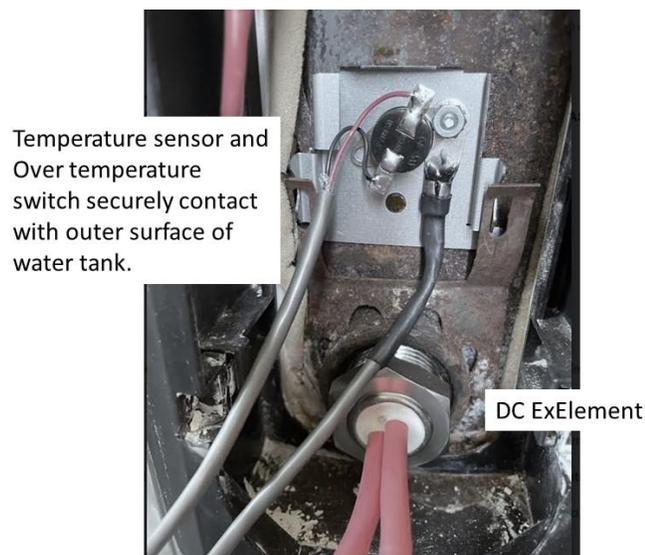

Figure 5. Positioning of ExElement and temperature sensors.
- Professional installers are recommended for troubleshooting and repair. Replace with the DC powered ExElement and temperature sensor plate with Apparent parts (Figure 5). Ensure the DC ExElement is properly inserted and screwed in. Ensure the temperature sensor bracket is in contact with the inner tank.